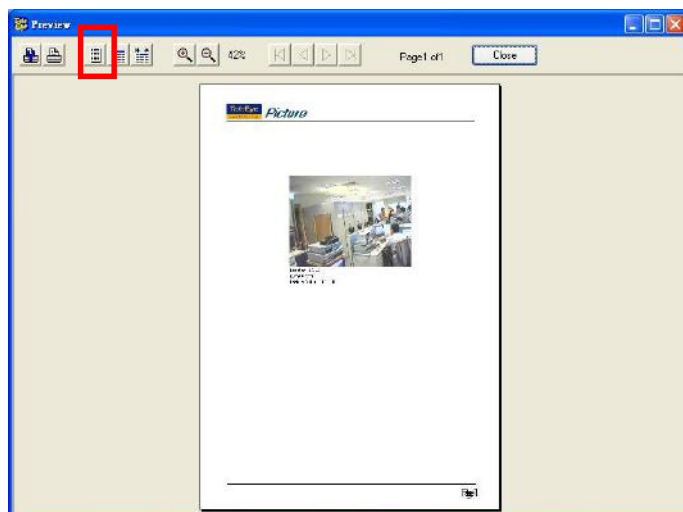

Fig 11.2d
Step 3 : Click **[Fit Page]**  icon to preview the picture in fit page size as shown in **Fig 11.2d**.